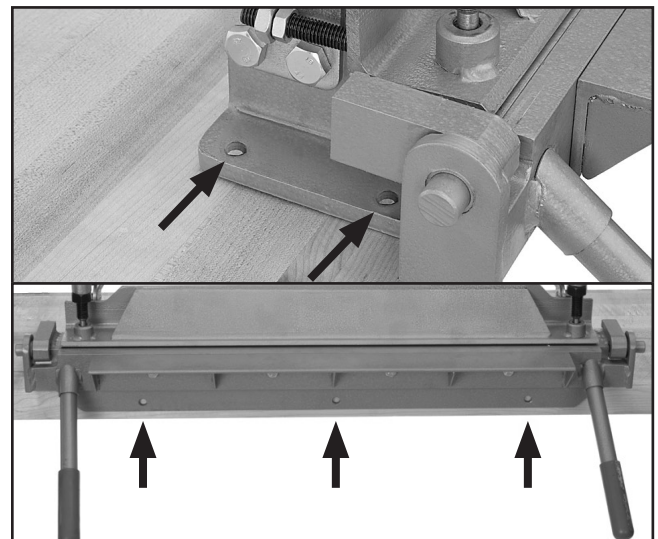

Figure 3. Mounting hole locations (right side of bending brake not shown).
1. Securely mount the bending brake assembly to a workbench or other stable surface using 8mm hex bolts, flat washers, lock washers and hex nuts. Mounting hole locations are indicated in **Figure 3**.